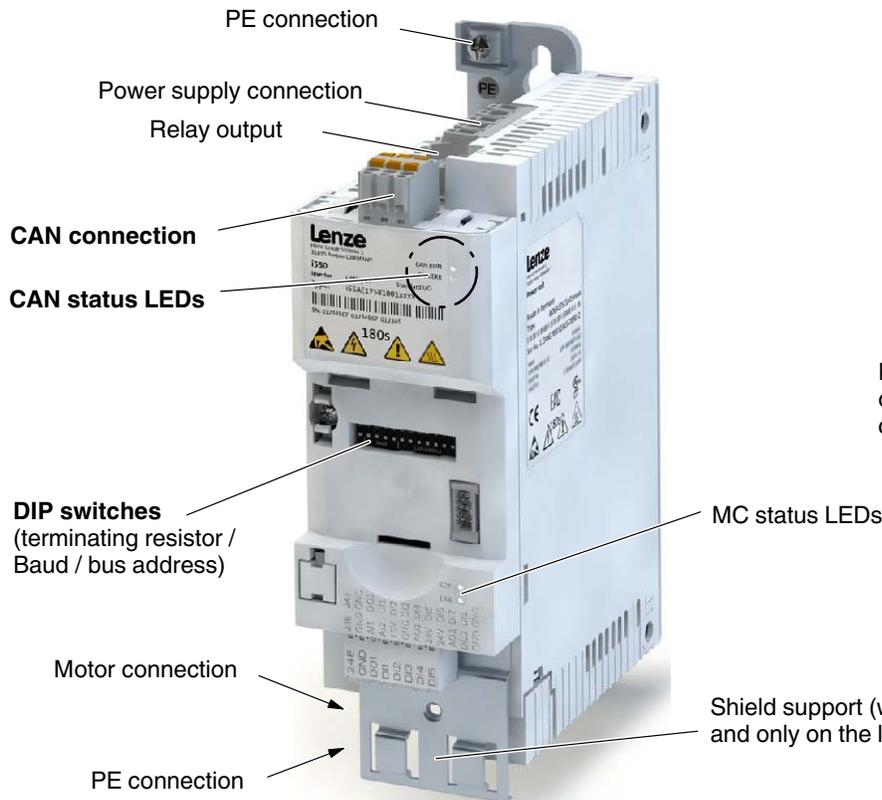

Fig. 7-5
- On the CAN module of the last motor controller 8200 (Fig. 7-4) or with the DIP switch on the last motor controller i550 (Fig. 7-5).